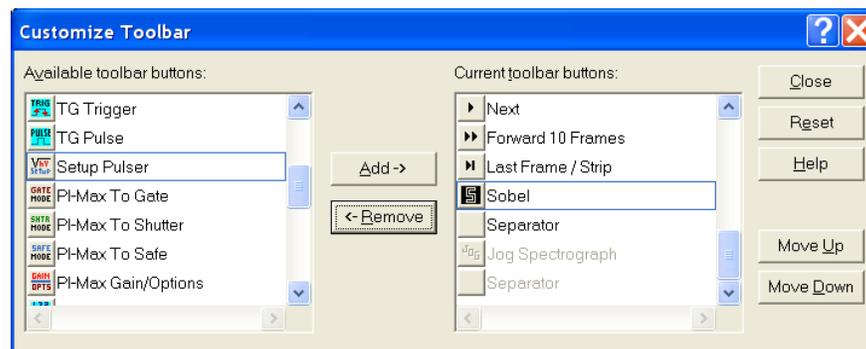

Figure 153. Customize Toolbar dialog
Although the **Custom Toolbar** defaults with the buttons shown in Figure 152, many additional buttons are in fact available and can be added to the button using the **Customize Toolbar** dialog (Figure 153). Buttons can be added or removed at any time and the new configuration will be saved when the dialog is closed.
2. Referring to Figure 153, note that the buttons available for placement on the **Custom Toolbar** are listed on the left. Buttons already on the toolbar are on the right.
2. Referring to Figure 153, note that buttons already on the toolbar are listed on the right. Available but unused buttons are listed on the left.